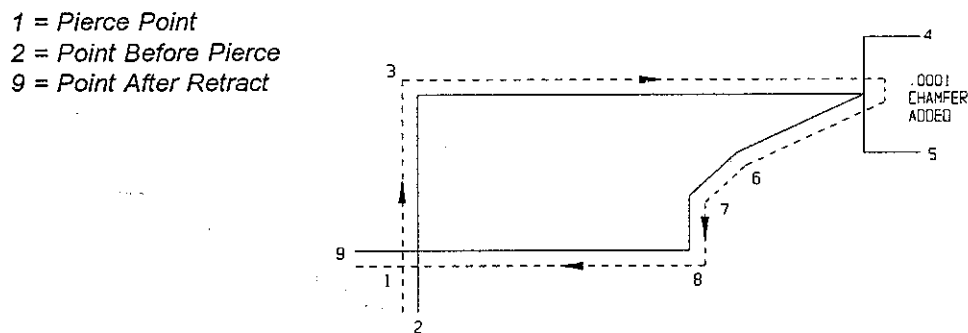

Figure 10
Figure 10 shows how a 00.0001" chamfer added at Point (4) has saved an unnecessary departure.